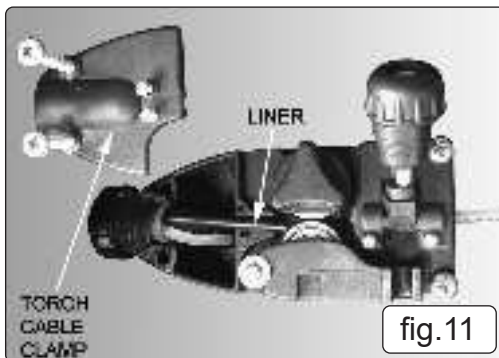
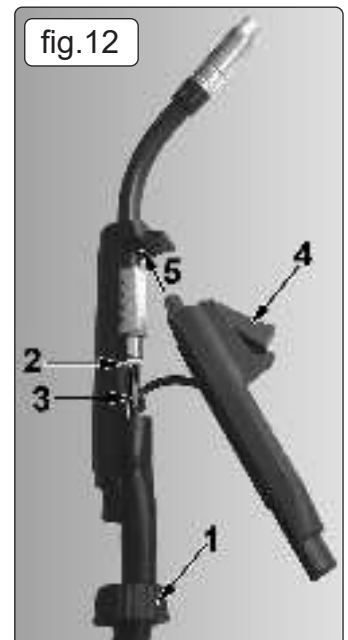

fig.11
fig.12
- 7.6.1. A worn or damaged wire liner will seriously affect the performance of the welder and should be immediately replaced. First wind the wire back onto the spool and secure it. Remove the four screws securing the torch cable clamp to the wire feed unit (fig.11) and take off the clamp.
- 7.6.3. Take hold of the back end of the moulding which contains the switch and pull it outwards and downwards to release it from the other moulding as shown in fig.12.
- 7.6.5. Insert the new liner into the torch cable and secure it in the wire drive unit by replacing the torch cable clamp. See fig.11. Insert the other end of the liner through the locking ring and fully into the brass nut in the torch head, see 2 in fig.12.